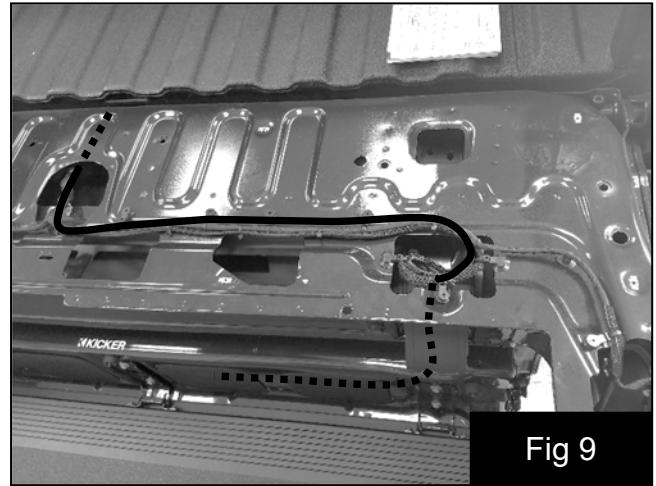

Fig 9
15. Continue to route the amplifier harness along the factory harness to the underneath side of the bed near the back side of the trailer connector. Secure amplifier harness to factory harness with supplied wire ties. Fig 9